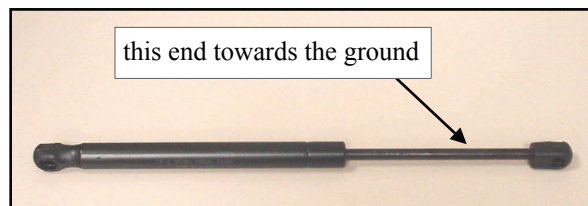

Fig. 9.1 Gas shock for windshield
9.1 Open the windshield and attach the two gas shocks as shown in fig. 9.1 with the rod end of the gas shock pointing down. Snap the gas shock onto the ball studs. Leave the windshield in the open position.